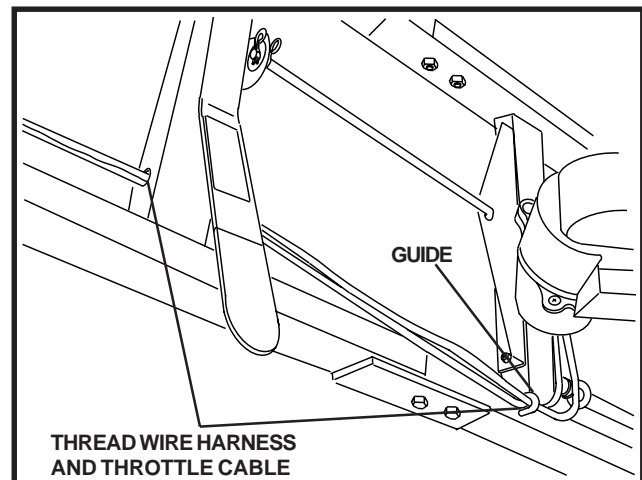

FIGURE 6
- Route the wire harness from engine through guide and handle crossmember. Figure 6.
- Route the throttle cable through guide on lower handle assembly. Figure 6.